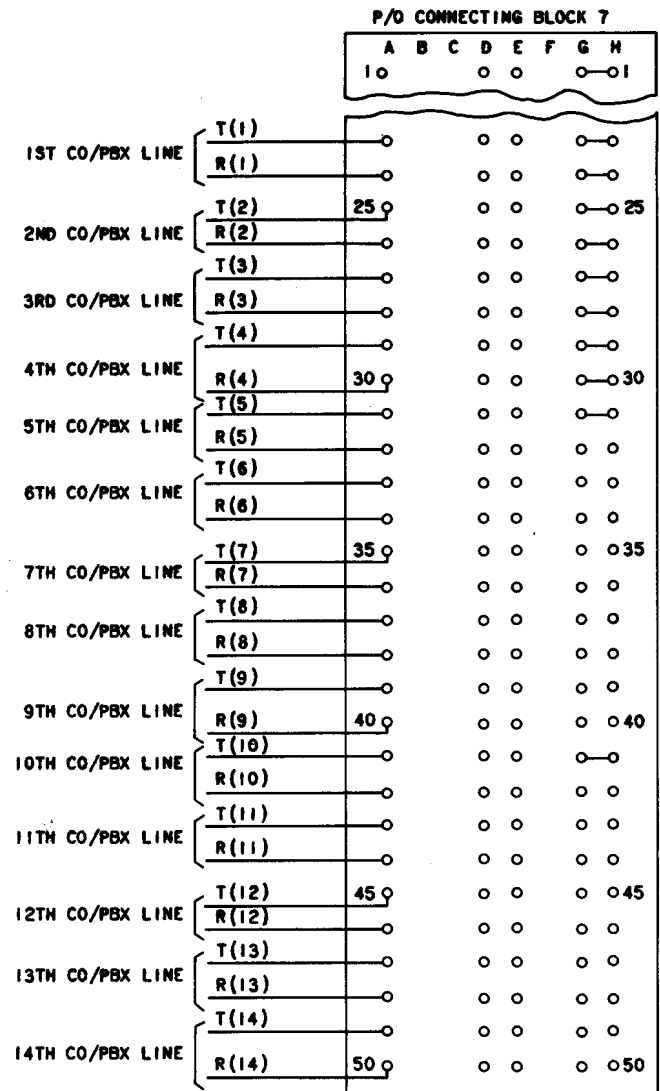

Fig. 14—Connections for Incoming CO/PBX Lines
(7) Terminate CO/PBX or private lines on connecting block 7, column A, terminals 23 through 50. See Fig. 14.